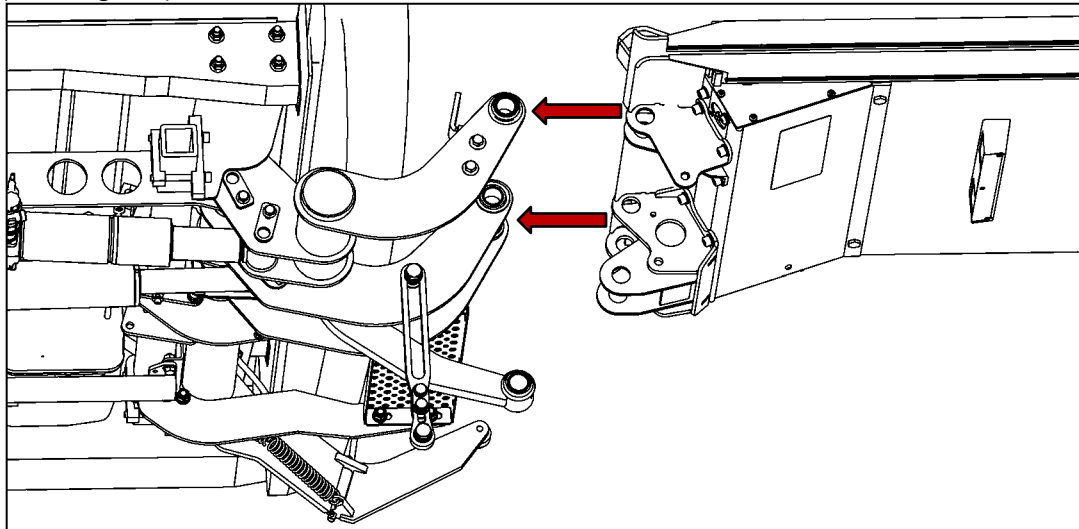

Figure 58
- Thoroughly grease the bearing bushes with the special assembly grease (accessories kit parts list – Item No. 13) (see Fig. 58).
- Align the top bearing points of the platform (platform attachment points) with the swing-arm bearing points (top attachment points of the lifting gear) (see Fig. 58).